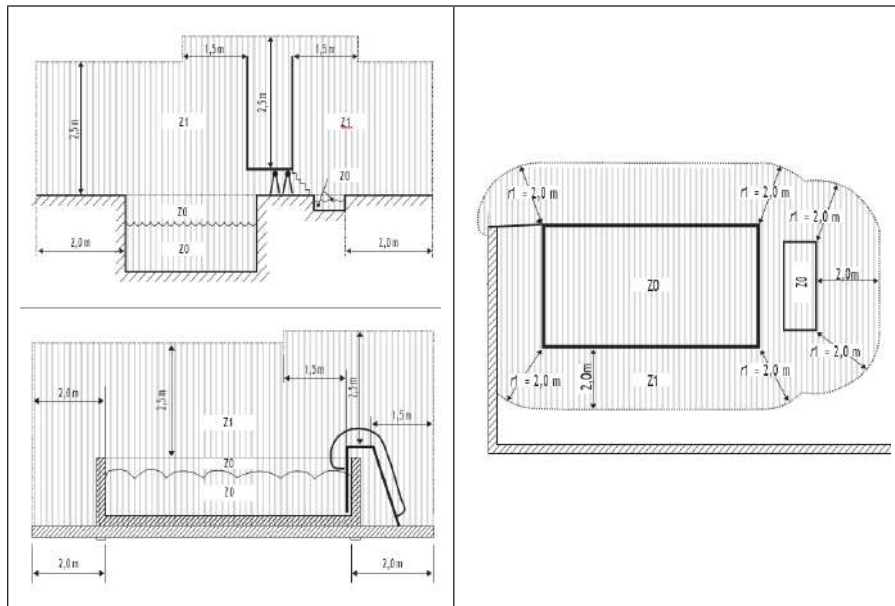

FIGURE 1 - INSTALLATION ZONES
- The pump can not be installed in the Zone 0 and Zone 1. To see drawing refer to Figure 1 - Installation zones.
Before starting, check that you have all of the parts shown in Figure 1.